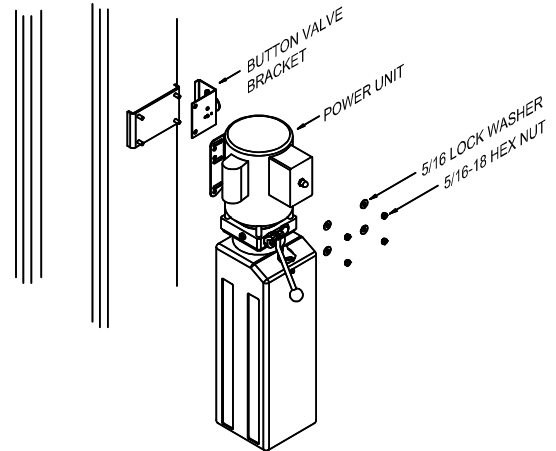

Fig 7
11. Install the power unit and button valve bracket assembly on the power column as shown in **Fig 7**.